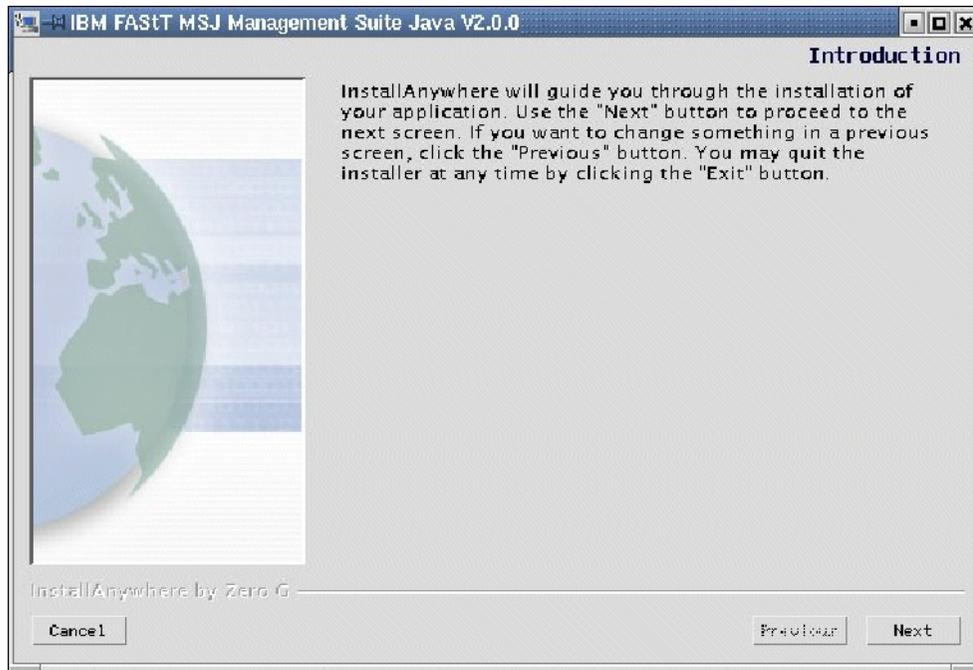

Figure A-12 Install window
4. The Install window shown in Figure A-12 appears: